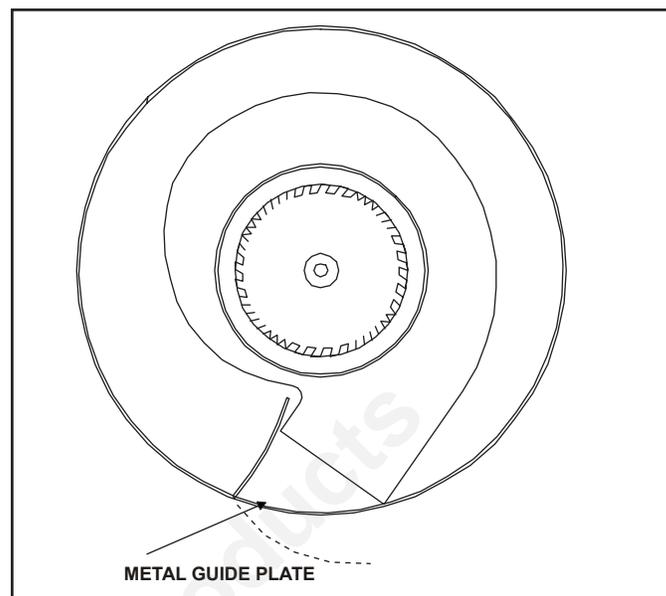
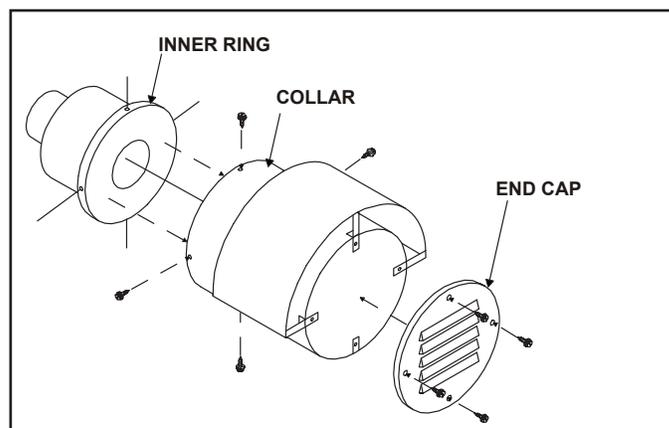

Figure 4.46
Figure 4.47
- The metal exhaust guide plate will have to be bent back inside the fan assembly. See Figure 4.46.
- Fasten the wire mesh to the 10-1/2" collar to cover the exhaust port hole, using (4) sheet metal screws.
- Slide the inner ring inside the cap assembly, carefully positioning the inner ring to its original orientation. See Figure 4.47. Carefully align the screw holes on the 10-1/2" diameter collar and the inner ring.